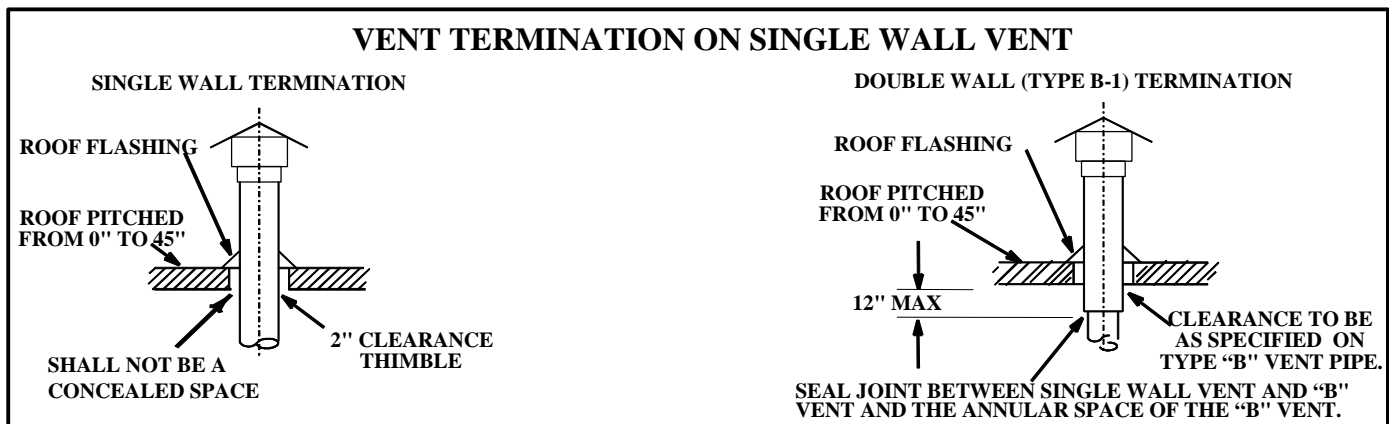

FIGURE 2
- 1- SEP unit heaters are to be used with NFPA- or ANSI-approved chimneys, U.L. listed type B-1 gas vents, single wall metal pipe, or listed chimney lining system for gas venting where applicable, as well as the modifications and limitations listed in figure 2.
12-When termination is routed through an exterior combustible wall the vent must be supported using a listed clearance thimble. Where local authorities permit, a single section of type B-1 vent pipe may be used as an alternative to the thimble. When using a type B-1 vent termination use the clearances specified by the vent manufacturer. Seal the connection between the single wall and double wall pipes and the annular space of the double wall pipe as shown in figure 2. Inside edge of vent termination tee or elbow must be at least 12 inches from outside wall.